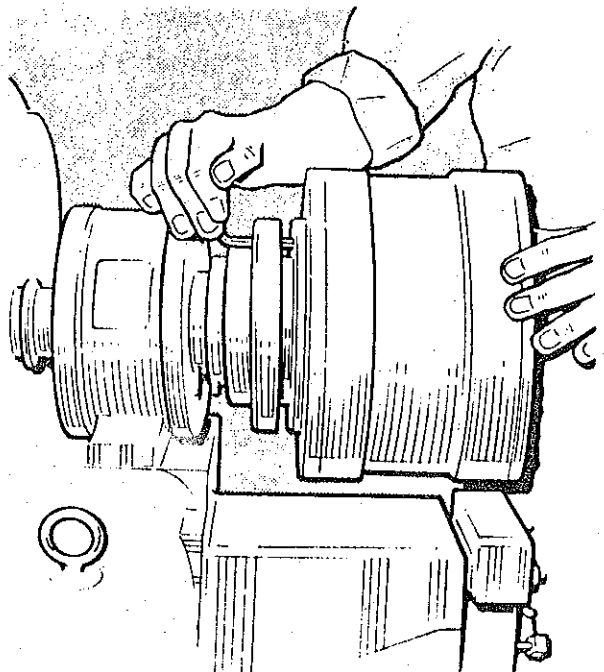

Figure 3. Gearbox removal
2. Removal of the Gear Box (See figures 3 and 4)
- (e) Use 2-M 8 x 40mm screws as jack screws in the threaded holes provided in the adaptor to jack the gear box off (figure 3).